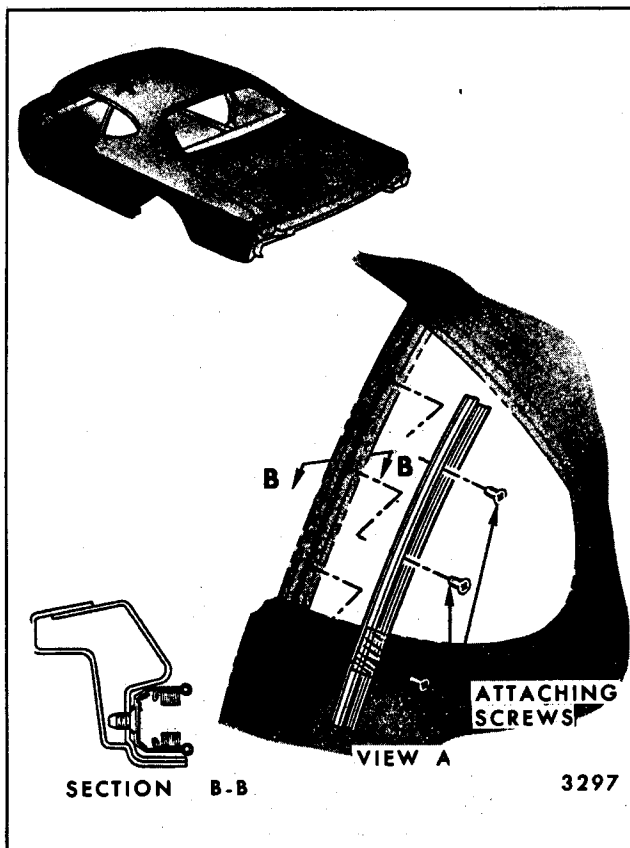

Fig. 7-8-Rear Quarter Window Front Glass Run Channel - Typical of All Closed Styles
2. Remove screws along length of run channel securing channel to body (Fig. 7-8).